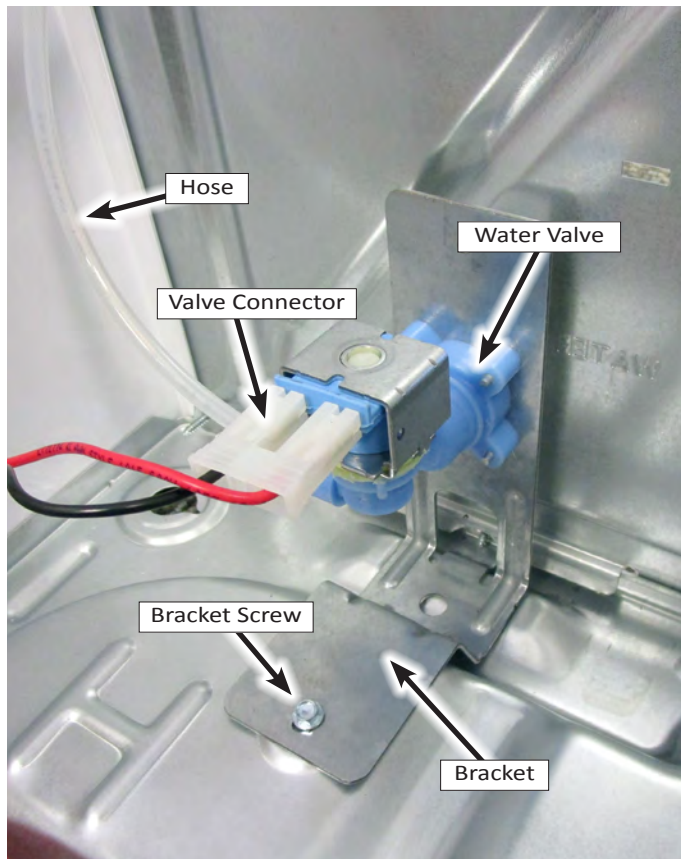

Figure 1 - Water Valve viewed from right side.
4. Remove the "C-Clip" from the water valve tube fitting and remove water tube from valve assembly (see Figures 1 & 2).
5. Remove the 1/4" hex-head screw securing the water valve bracket to the dryer base. Remove water valve and bracket assembly from dryer. See Figures 1 & 2.